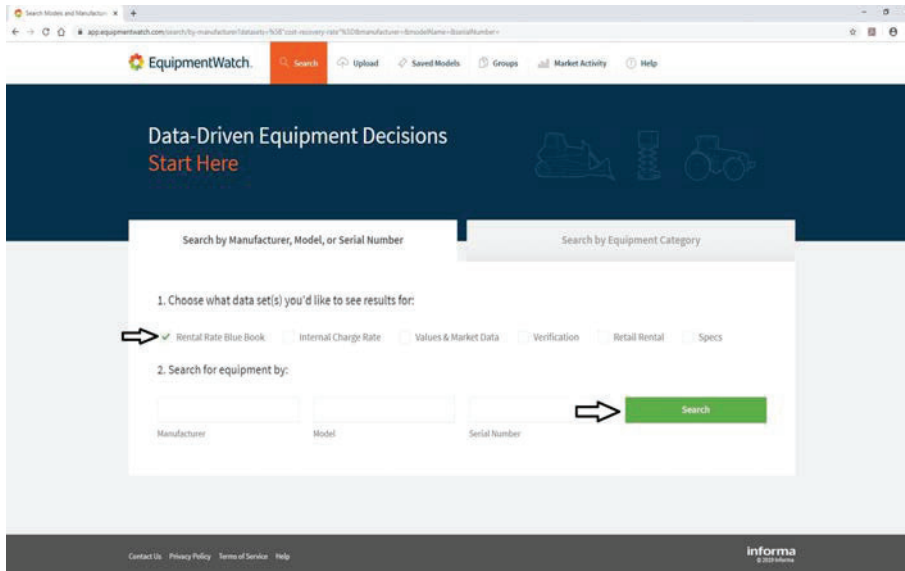

Figure 4-8: EquipmentWatch Homepage
- The homepage will open. Check the Rental Rate Blue Book and click the green Search button (Figure 4-8).